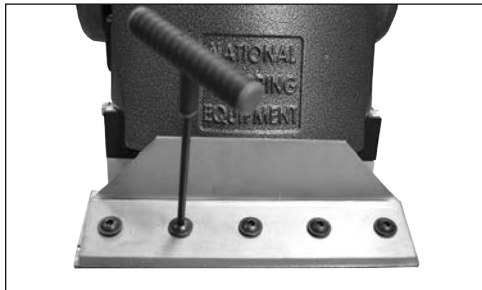

FIG. 7.1
2. Use the supplied extended 7/32 "T" wrench (Domestic) or a 6 mm Hex wrench (International) with at least a 3" (76 mm) extension to keep hand safely away from the blade. Loosen the five hex drive bolts (Figure 7.1), it is not necessary to remove them completely.